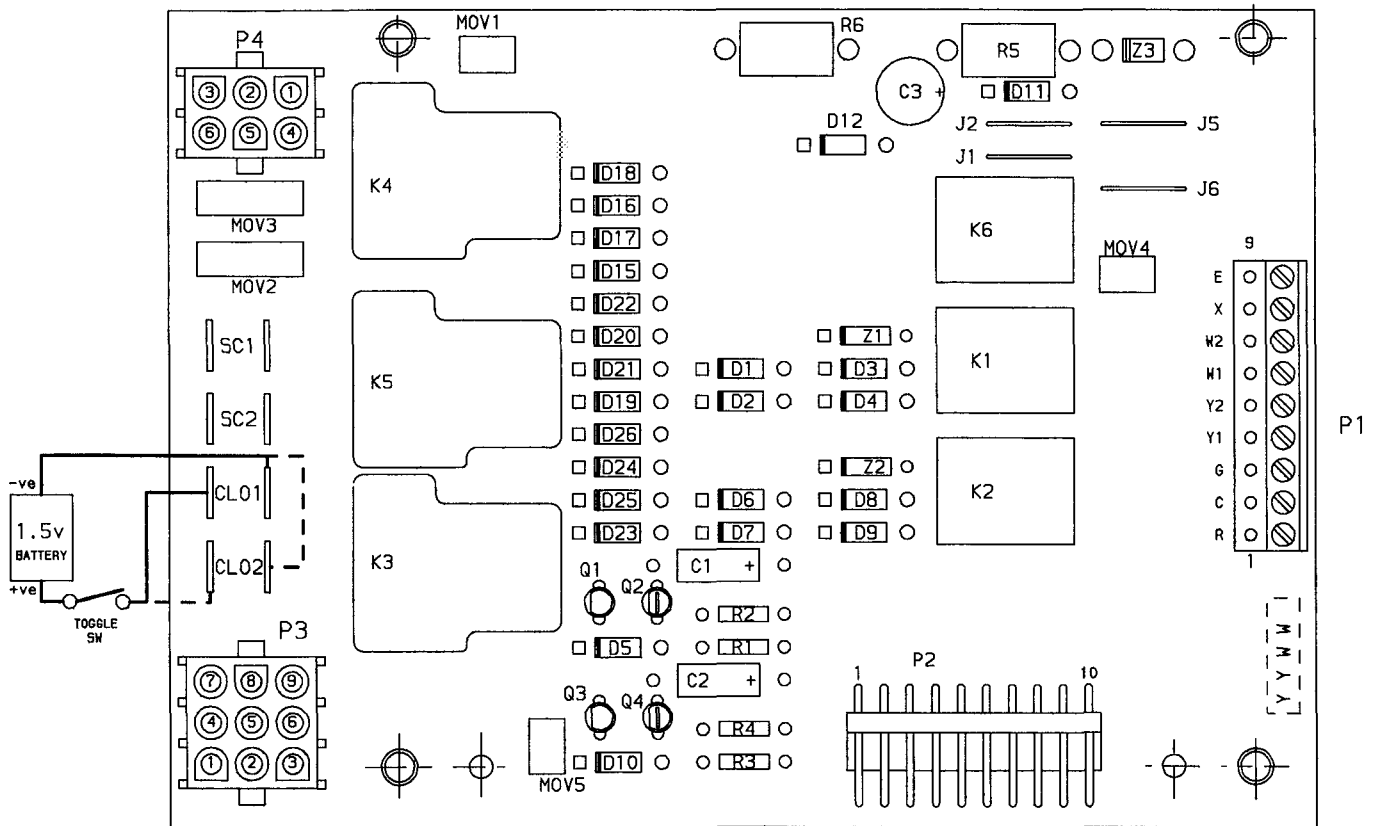

Fig. 34 – Compressor Lockout Connections
- Turn unit power off. Use a toggle switch to connect a fresh 1.5-v battery to the terminals marked CLO1 as shown in Fig. 34.
The negative (-Ve) pole of the battery must be connected to the inner terminal and the positive (+Ve) pole must be connected to the outer terminal as shown in Fig. 34.
- d. Turn unit power off. Connect a fresh 1.5-v battery to terminal marked CLO2 as shown in Fig. 34.
The negative (- Ve) pole of the battery must be connected to the inner terminal and the positive (+ Ve) pole must be connected to the outer terminal as shown in Fig. 34